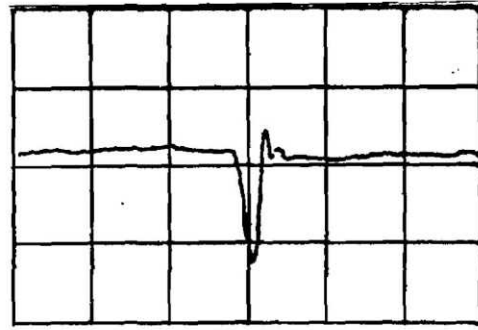

Figure 11
- c. If the crystal is good, it will act as a low impedance 'short' at its resonant frequency. This will cause a dip in the displayed waveform, as shown in Figure 11.